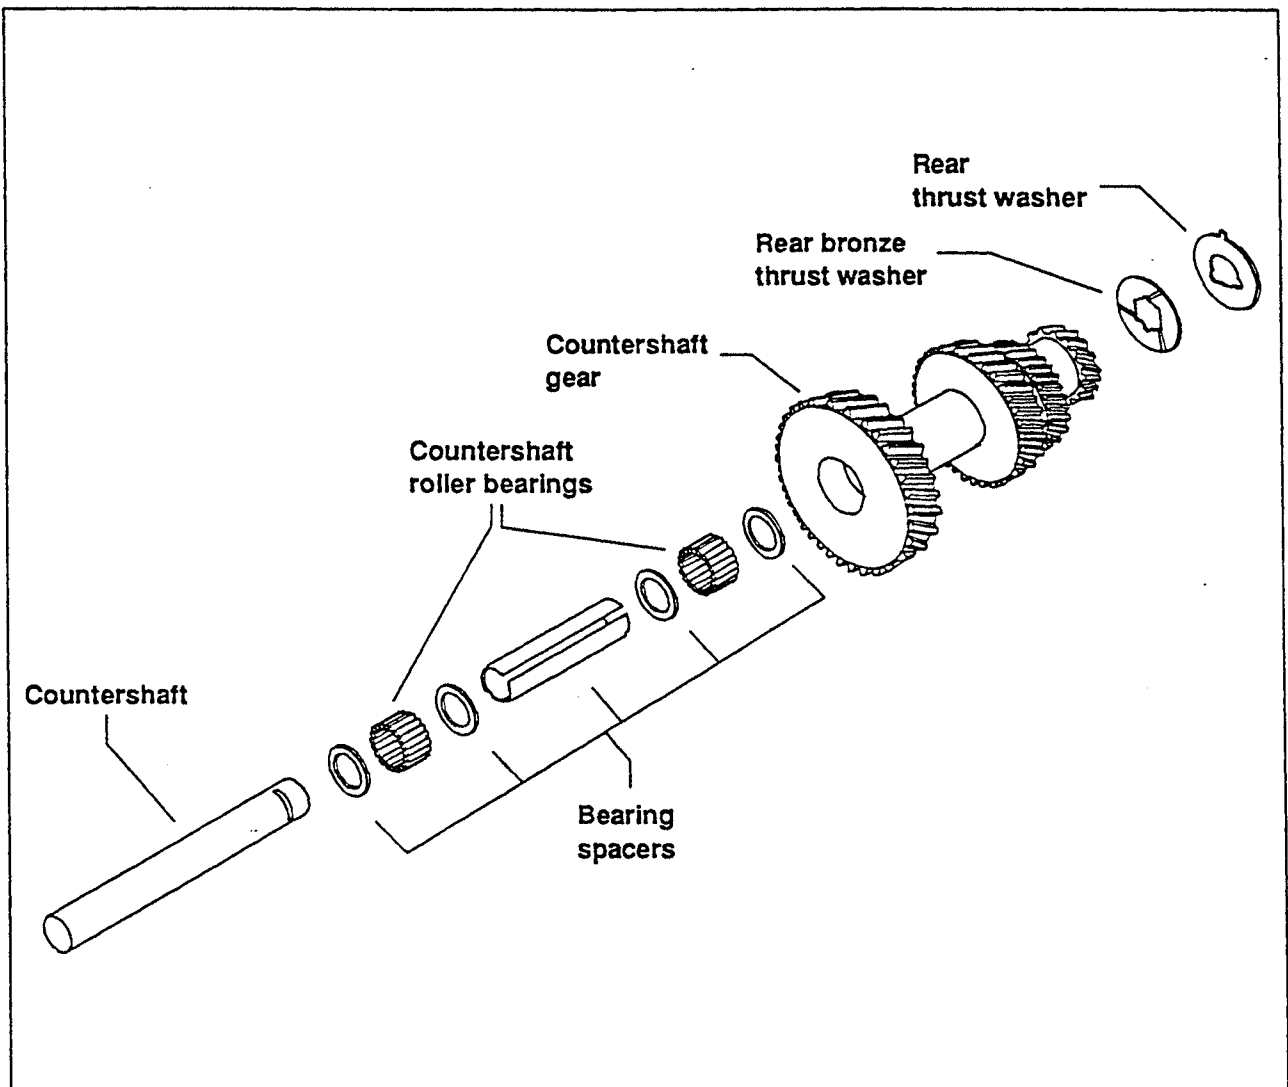

Figure 36 Countershaft gear assembly
- 13** Tilt the mainshaft and remove the synchro unit assembly, 2nd-speed gear, low/reverse gear, and low/reverse gear fork (Figure 36).
- 16** Drive the countershaft out through the rear of the transmission case using a soft (brass) drift (Figure 36).
- 17** Lower the countershaft gear to the bottom of the transmission case (Figure 36).
- 20** Remove the countershaft gear assembly (Figure 36).
- 21** Replace the two thrust washers if they show any sign of wear, score or damage (Figure 36).
**4** Install countershaft gear (Figure 36).